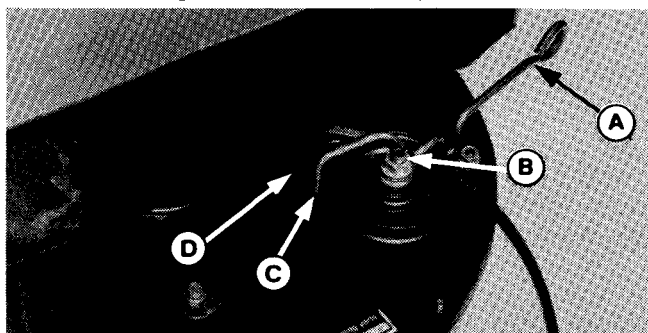

Figure 17A.
13. The belt retainer must be positioned correctly and retaining nut tightened on the blower. Turn housing upside down and reposition belt retainer (A, figure 17A) so that leg (C) contacts side of idler arm (D) as shown. Tighten nut (B) securely.